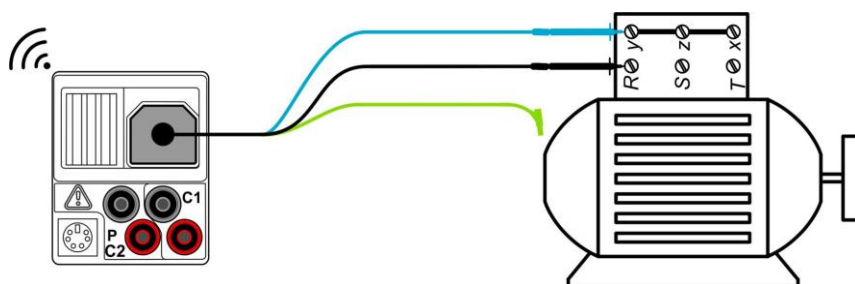

Figure 5.11: Tip commander and 3-wire test lead applications
- ❑ **Connect** test leads to the tested object (see *figure 5.11*).